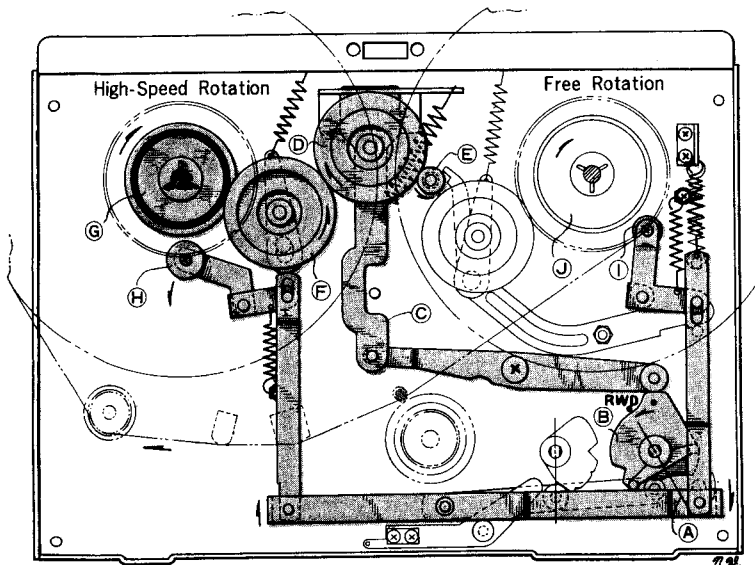

Fig. 4
Turn the *FAST FWD-REWIND knob (A)* in "REWIND" position, and the *cam (B)* under the knob pushes the *Lever (C)* up. The *Idler (D)* moves into the space between the upper part of the rotating *Motor drive bushing (E)* and the *Intermediate Pulley (F)* to transmit the high-speed rotation of the motor through the intermediate pulley to the *Supply Reel Spindle (G)*. At the same time, *Brake Rollers (H)* and *(I)* come off the reel spindle to free the *take-up reel spindle (J)*, thereby rewinding the tape into the supply reel at a fast speed. (See figure 4)